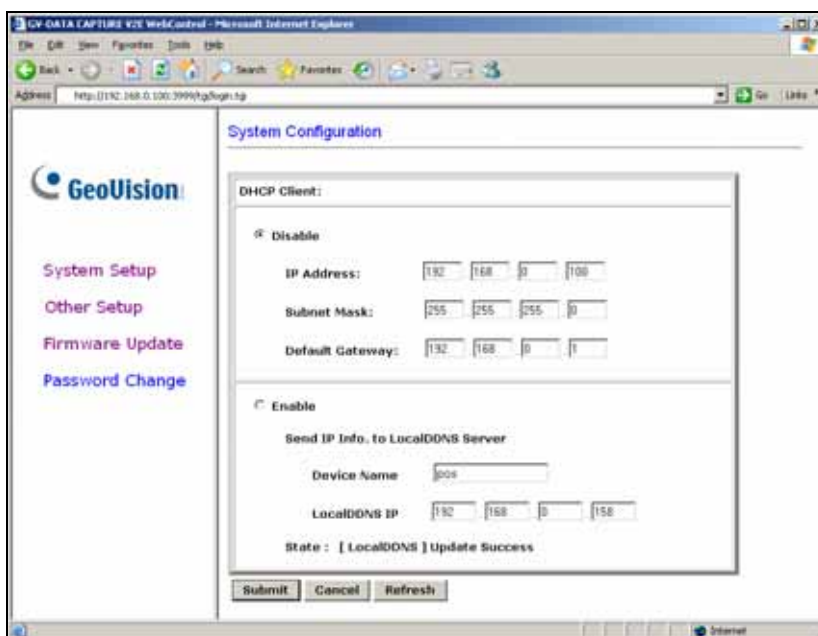

Figure 5
2. In the User Name and Password fields, type default value **admin** and **1234** respectively, and then click **OK**. *Figure 5* page appears.